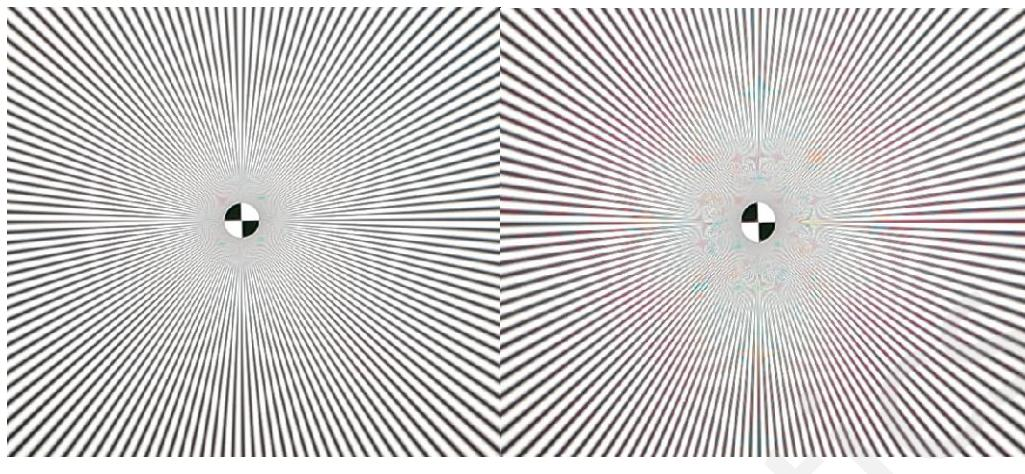

**Figure 3.8-2 Example of a studio scene.**
- 1) Point the imaging system at a studio scene, similar to that in Figure 3.8-2 and wait for AE to settle. Now enable Manual\_exposure on the “TSYSTEM” page of Control Tool (see “API” tab).
Note: Keep in mind that increasing DP\_slope too much will result in decreased resolution as shown in Figure 3.8-2. It may also be preferable to freeze firmware before adjusting these parameters. This can be done by enabling “Freeze\_firmware” on the “TSYSTEM” page in the “API” tab of Control Tool. Disabling this after parameter adjustment may help subjectively evaluate the impact of parameter adjustment. Hence, enabling/disabling Freeze\_firmware throughout tuning of DP\_threshold and DP\_slope may be useful.